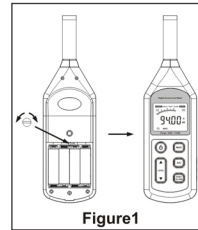

Figure1
3. Turn on the Calibrator and adjust the Protentiometer inside the battery compartment of the unit (shown in the Figure 1), until the LCD display the desired Level 94.0dB.